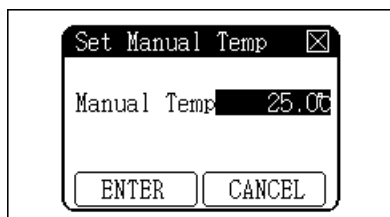

Figure 14 Set Manual Temp
- 4 The Set Manual Temp screen appears on the display. See Figure 14.